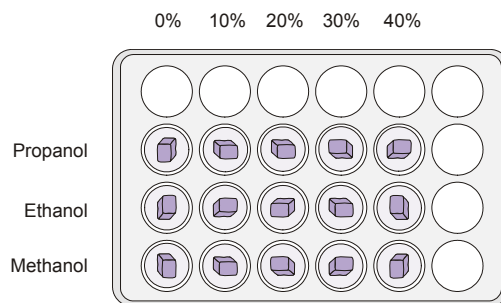

Figure 1
5. Prepare five ethanol solutions. To do so, repeat Step 3, substituting ethanol for methanol. Place each solution in the second row of wells. See Figure 1.
6. Prepare five 1-propanol solutions. To do so, clean your pipette and repeat Step 3, substituting 1-propanol for methanol. Place each solution in the third row of wells. See Figure 1.
9. Set the timer to 10 minutes and begin timing. Use forceps to place a piece of beet into each of 15 wells, as shown in Figure 1. Stir the beet in the alcohol solution once every minute with a toothpick. Be careful not to puncture or damage the beet. While one team member is performing this step, another team member should proceed to Step 10.